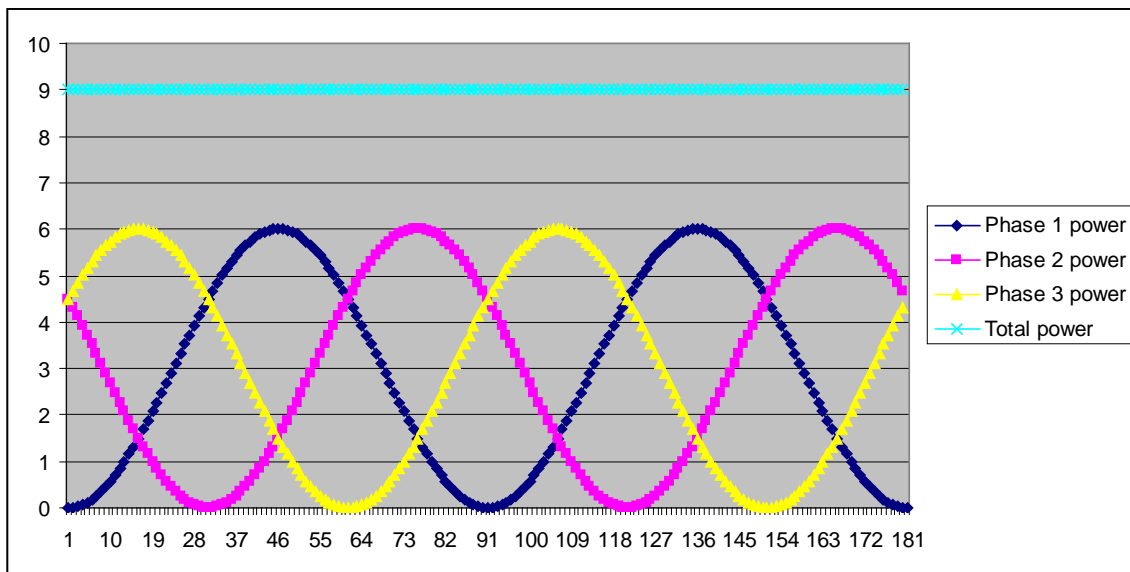

Figure 3
- For balanced three phase circuit the addition at one point of all the three phase voltages or all currents at every instant adds to zero. See Figure 3.